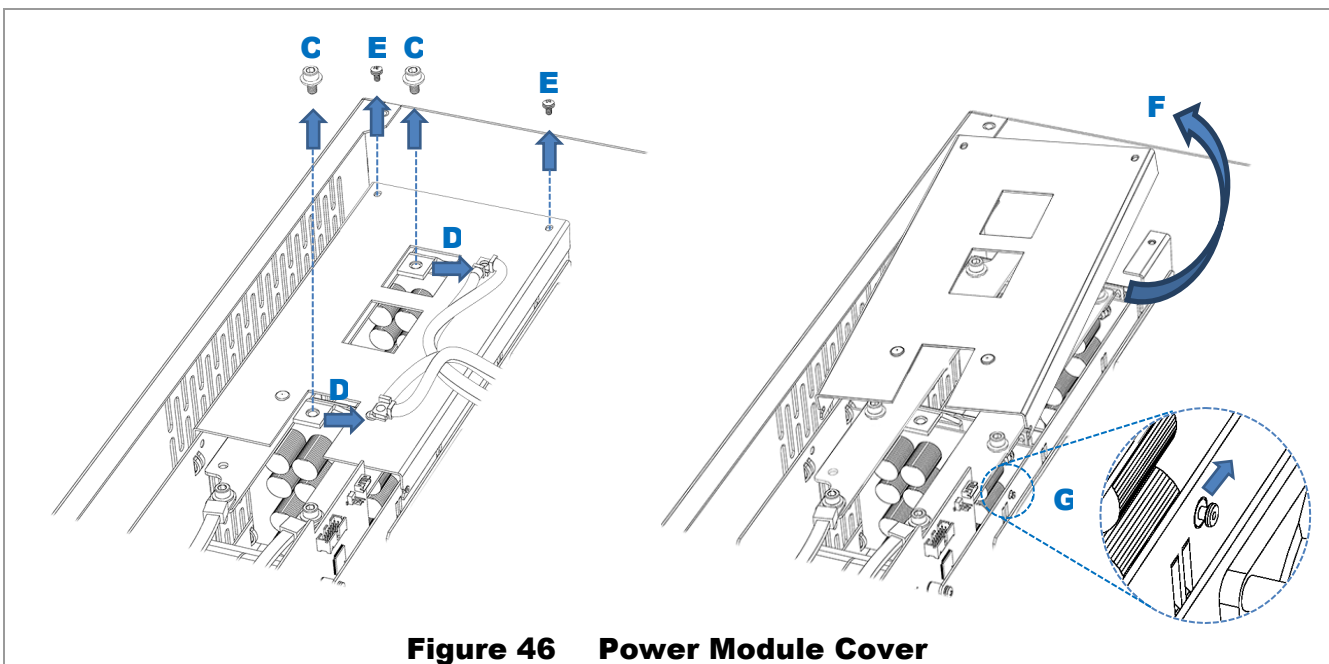

Figure 46 Power Module Cover
3. Using a 5 mm hex (Allen) wrench, remove bolts and washers for transformer cables. See **C** in Figure 46.
4. Remove transformer wires by bending them away from work area. See **D** in Figure 46. The voltage sense wires will be completely disconnected at this stage; set them aside.
5. Remove the cover for the power module cage. See Figure 46 for all items.
- Replace the cage cover by attaching the keyhole fastener **G** and lowering the cover into place **F**. Replace the cover screws **E**. See Figure 46 if necessary.
- Replace the transformer cables and hardware **C**. See Figure 46 if necessary. Ensure that the hardware is stacked in the following order.